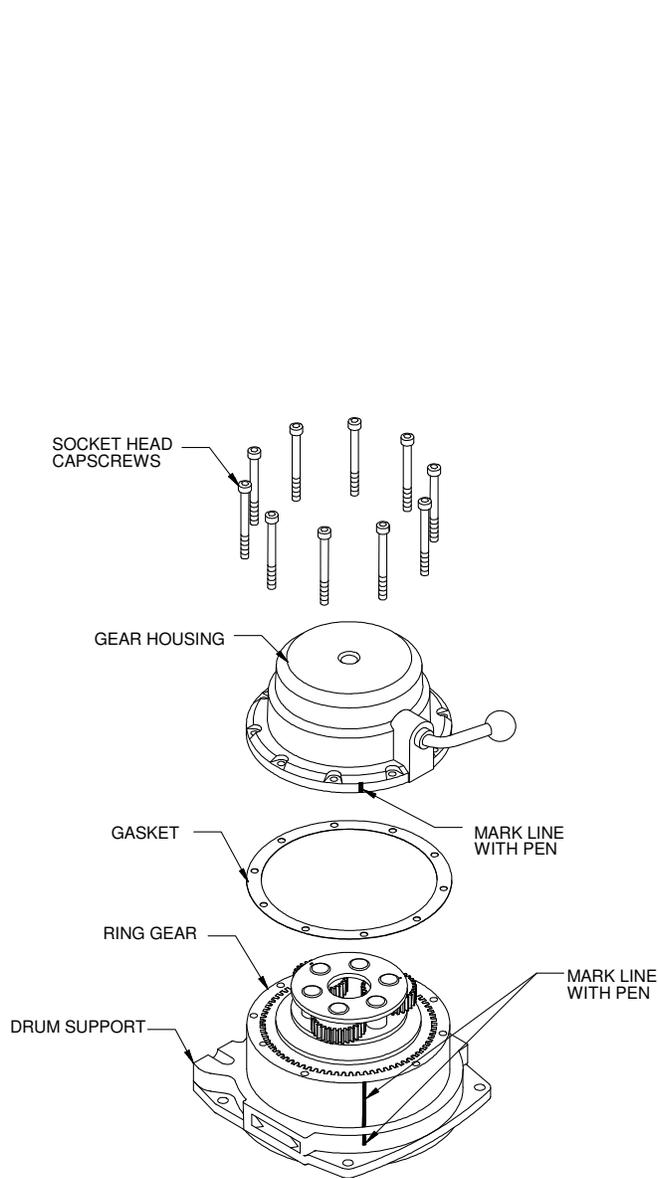
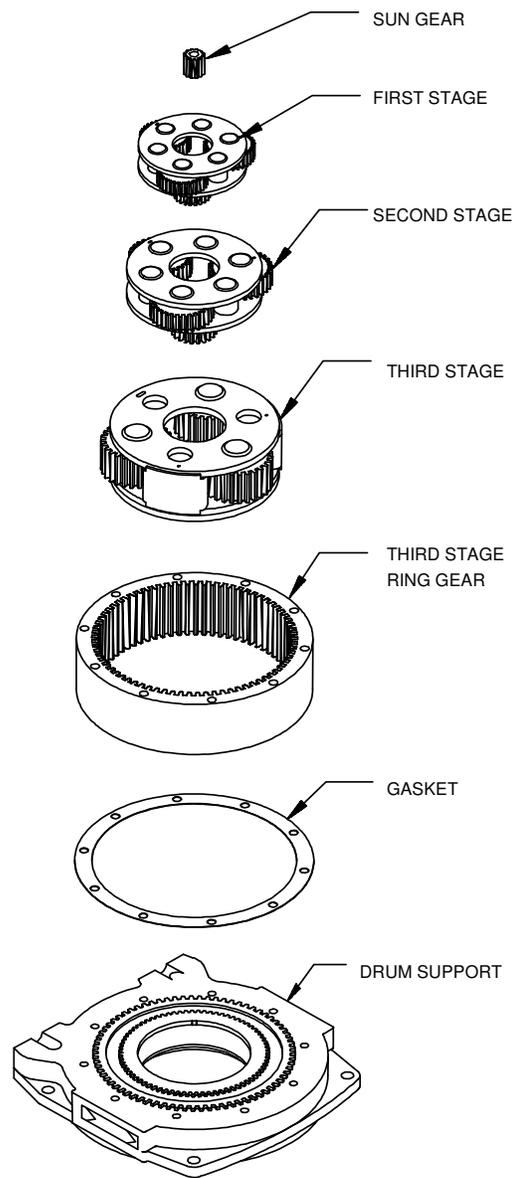

Figure 2.3
Figure 2.4
4. Rotate the gear train so that the ten socket head cap screws are facing up (*Figure 2.3*). Remove the ten cap screws. Mark the housing ring gear and drum support with a marking pen in one location so they can be easily re-aligned during assembly. Remove the housing and ring gear.
5. Remove the three stages of planetary gears from the drum support (*Figure 2.4*). Also remove the loose first stage sun gear.
2. With the drum support seal facing down, place a gasket over the ten tapped holes and then the large ring gear on top of it (*Figure 2.4*). Align the markings previously made during disassembly (*Figure 2.3*).
3. Using a grade of moly-disulfide grease with good performance between -50°F and +125°F (Aeroshell 17 is recommended), coat the inside of the ring gear teeth until all of the spaces between the teeth are filled. Install the third stage carrier, center spline down (*Figure 2.4*).
4. Completely fill the center hole in the third stage carrier, between the planet gears and up to the top of the carrier plate, with grease. Insert the second stage carrier into the third stage. Fill the second stage carrier hole with grease. Insert first stage carrier. Fill first stage center hole with grease. Insert loose sun gear into the first stage (*Figure 2.4*).
5. Fill the spaces between the teeth of the clutch ring gear with grease (*Figure 2.6*). Place a gasket on top of the large ring gear. Using a very thin screwdriver, hold clutch detent pin in place while turning gear housing over onto the gears. Line up marks previously made (*Figure 2.3*).